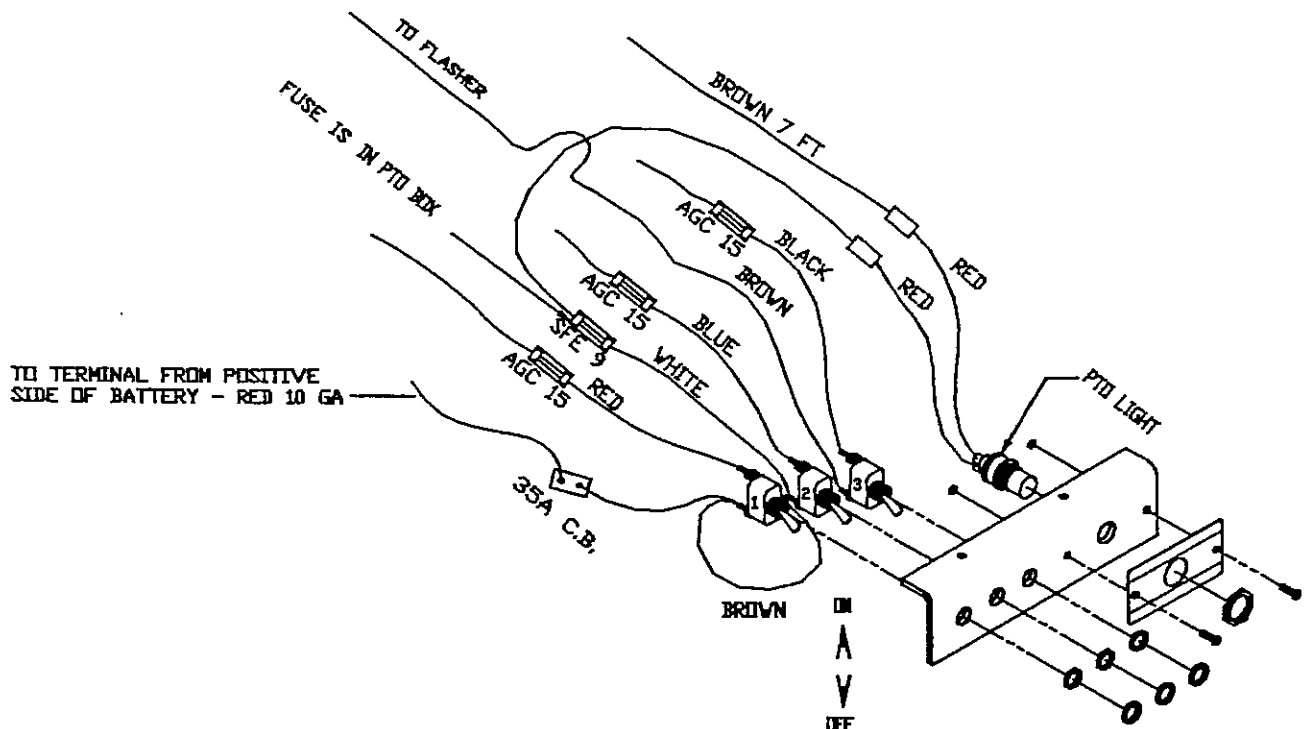

FIG. 4-40 DASH SWITCH PANEL INSTALLATION
a. Assemble three toggle switches in aluminum panel from the back side with the toggle switch key slots down, away from the mounting flange. Tighten jam nuts securely. (See FIG. 4-40)
b. Mount the caution placard on the panel using two 3/16" stove bolts with the top of the placard toward the mounting flange of the panel. Install a lock washer and nut on each stove bolt. Align large hole of placard with the largest hole of the panel. Tighten mounting bolts securely. (See FIG. 4-40)
panel from the unpolished side. Install jam nut on front side and tighten securely against placard. (See FIG. 4-40)
**4-11.25** Switch panel assembly (See FIG. 4-40 for details) is wired as follows:
4-11.40 Run the wire through the fire wall with the emergency light switch wiring to the switch panel. Attach the wire to the bottom of SWITCH 1 along with the loose end of the short brown wire of SWITCH 2. (See FIG. 4-40)